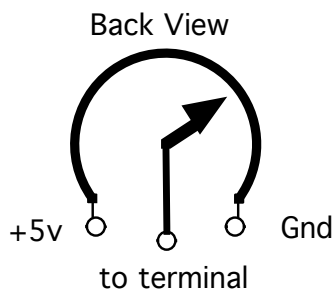

Figure 24.
- Run common wires (power and grounds) as needed. Look at figure 24 for a reminder of how to wire potentiometers to supply analog control.